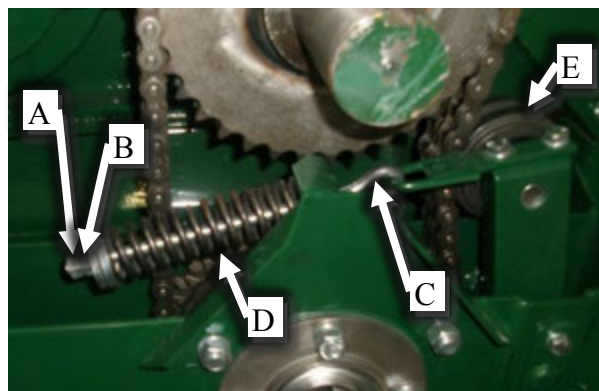

Figure 44 - Drive Chain Adjustment (Shield Removed for Clarity).
Adjust the tension of the main drive chain by doing the following steps (see Figure 44). Make sure the chain deflection is 1/2 inch total at the longest span.
- Loosen locking nut “A” (see Figure 44). Adjust nut “B” on j-bolt “C” to compress spring “D” increasing the tension of roller “E” on chain.
- Adjust bolt “A” (see Figure 44) until the proper chain deflection is achieved.